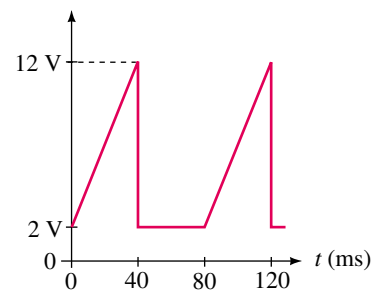

FIGURE 25-63
18. The waveform of Figure 25-63 is made up of a dc voltage combined with two fundamental waveforms from Table 25-1. Determine the dc voltage and sketch the two waveforms. Determine the Fourier series of the composite wave.